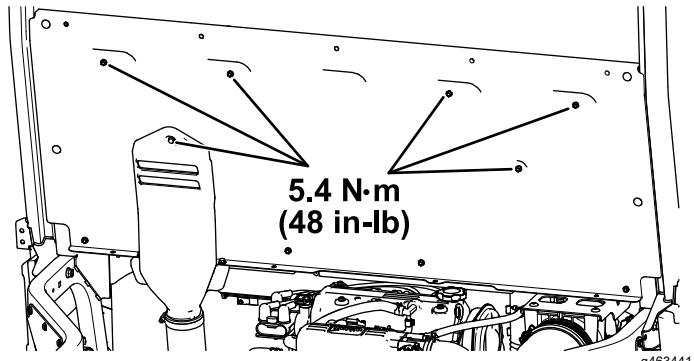

Figure 30
H. Torque the 5 hex-washer head bolts (1/4 x 3/4 inch) and the captive bolt attached to the CVT-intake hood to 5.4 N·m (48 in-lb) as shown in Figure 30.